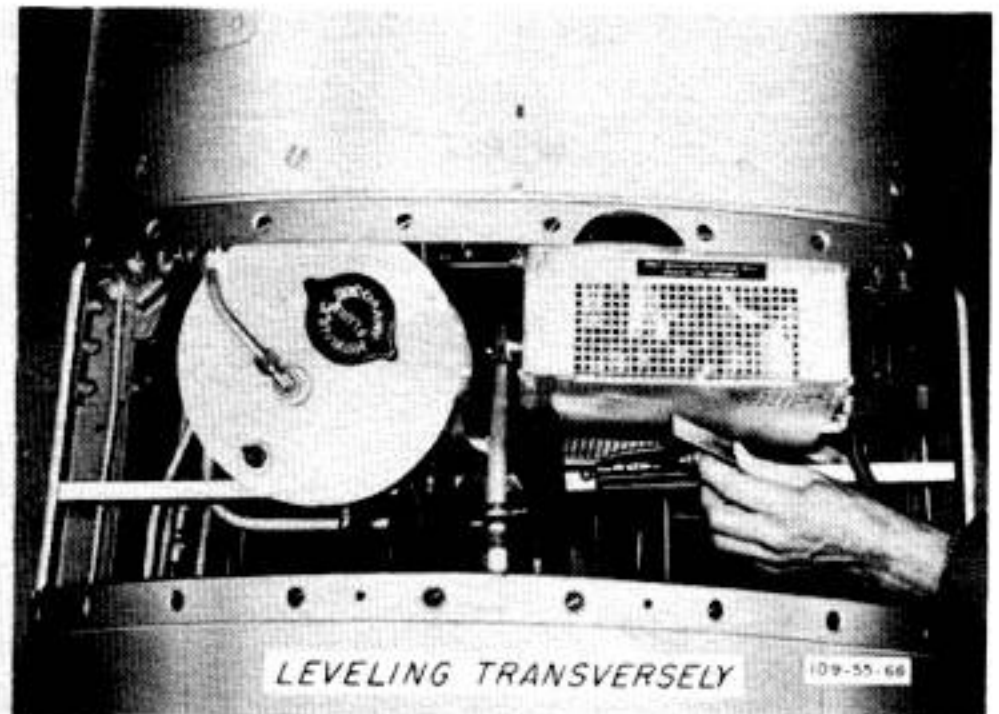

Figure 59—Leveling the Airplane
(1) TRANSVERSELY. (See figure 59.)
(2) LONGITUDINALLY. (See figure 59.)